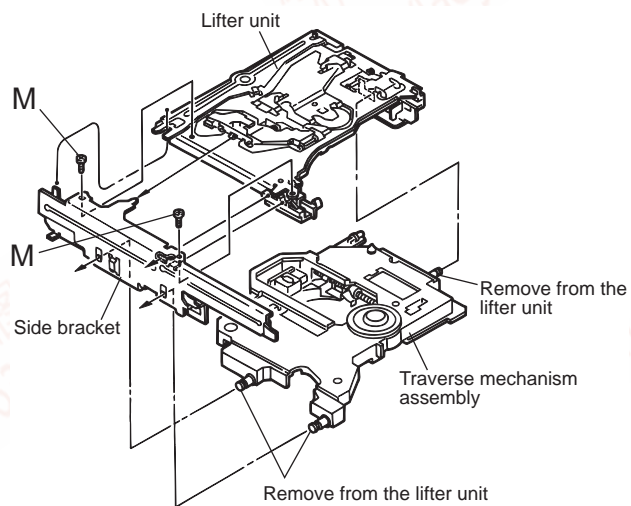

Fig.11
3.2.9 Side bracket and traverse mechanism assembly (See Fig.11)